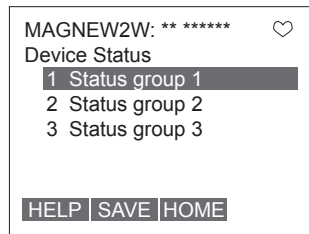
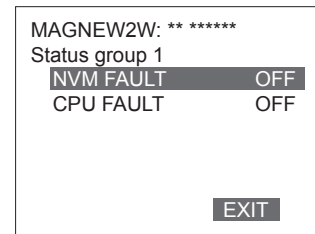
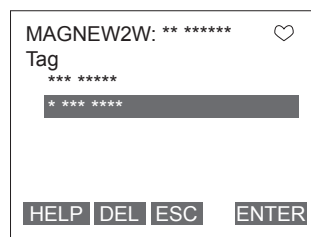
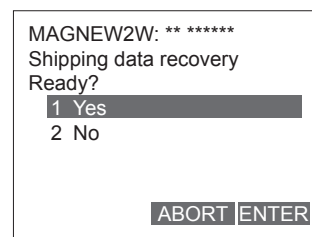

Fig. 7-75.
Fig. 7-76.
Fig. 7-77.
Fig. 7-78.
3. During the loop check, Fig. 7-75. is displayed. If the loop check is finished, move the arrow key up or down and select "1 End" to select other analog output value for the loop check. If you finish the loop check, move the arrow key up or down and select "2 Abort" to abort. Then Fig. 7-76. is displayed.
4. Once the display as shown Fig. 7-76. appears, press "OK" to abort. Then Fig. 7-77. is displayed. Press "OK" and then the screen returns to the loop test menu as shown in Fig. 7-78.